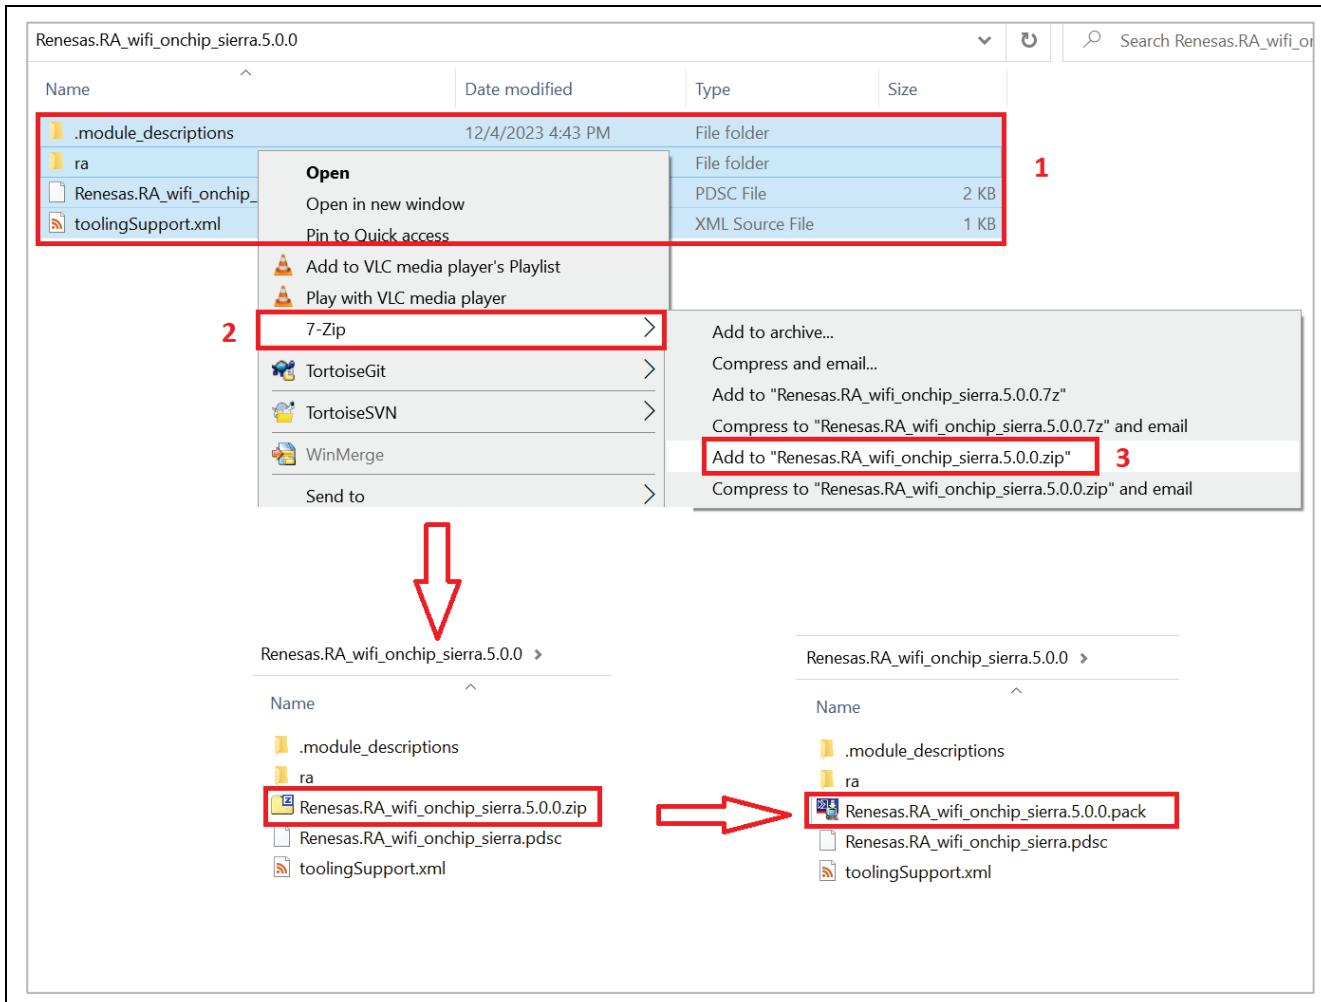

Figure 10. Pack Creation from the Zip File for the New Wi-Fi Driver Pack
- After all the changes are in place, you need to create a zip file using the 7-zip utility. The method for creating the `.zip` file and later renaming as, `.pack` file is shown in Figure 10.